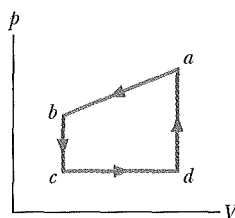

Fig. 18-41 Problem 49.
•49 GO Figure 18-41 represents a closed cycle for a gas (the figure is not drawn to scale). The change in the internal energy of the gas as it moves from a to c along the path abc is -200 J. As it moves from c to d , 180 J must be transferred to it as heat. An additional transfer of 80 J to it as heat is needed as it moves from d to a . How much work is done on the gas as it moves from c to d ?